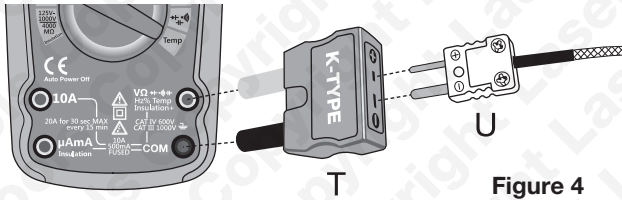

Figure 4
2. Refer to **Figure 4**: Insert the K-Type adaptor (**T**) into the **VΩ** and **COM** jacks. Then insert the Temperature Probe (**U**) into the K-Type adaptor, making sure to observe the correct polarity (narrow blade positive, wide blade negative).